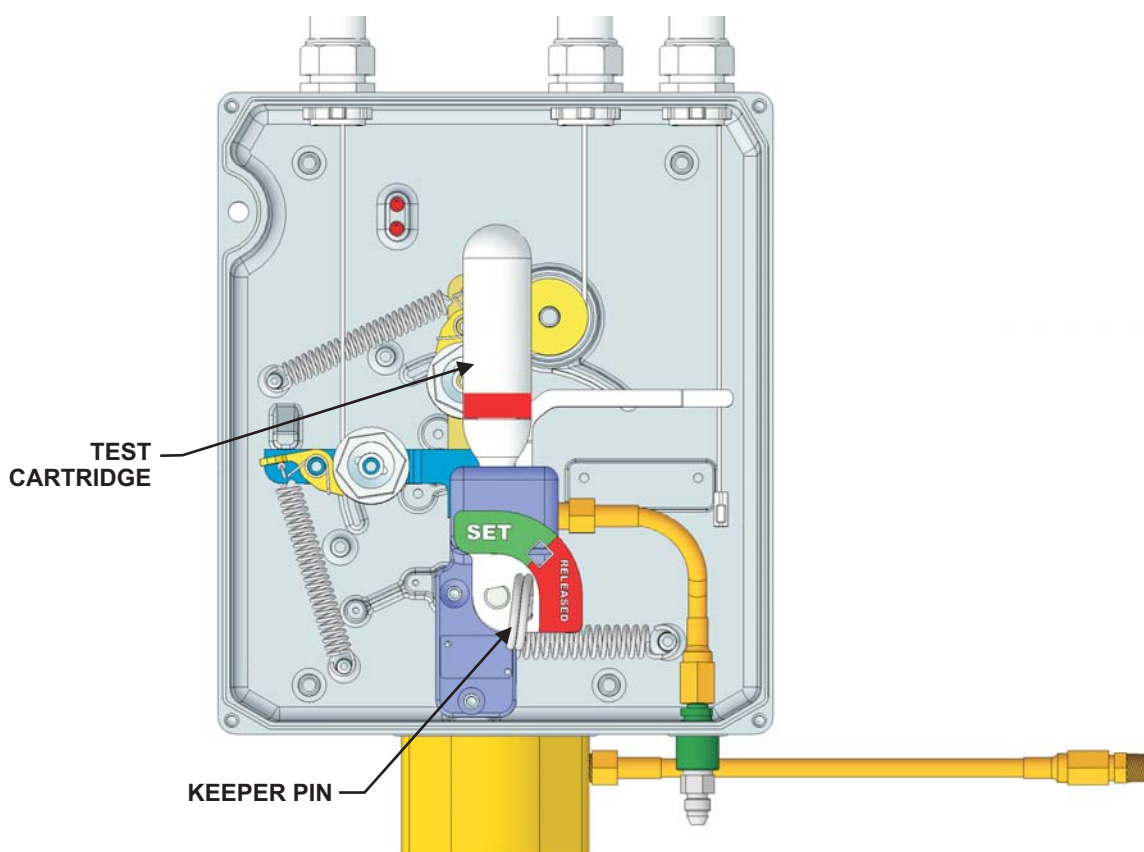

Figure 4-82. XV Control System, Test Cartridge Placement
1. After ensuring that the system is in the 'Set' position and the Keeper Pin is in place, locate the Test Cartridge (P/N 87-120044-001). Carefully install the cartridge into the valve assembly of the XV Control System. Tighten until cartridge is snug (see Figure 4-82). It is permissible to perform this test with the System Cartridge.